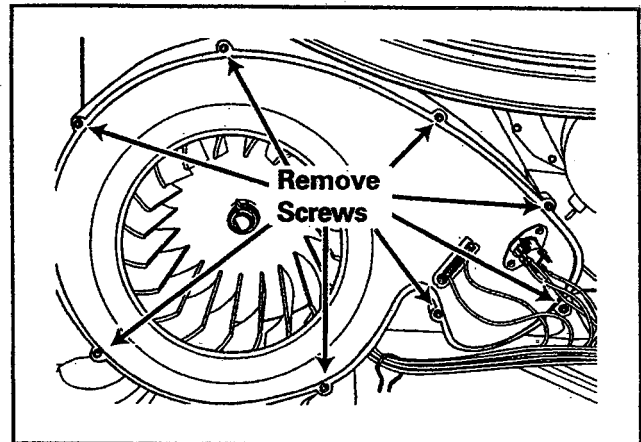

Figure 2-87
2. Remove eight screws holding cover to blower housing (*Figure 2-87*).